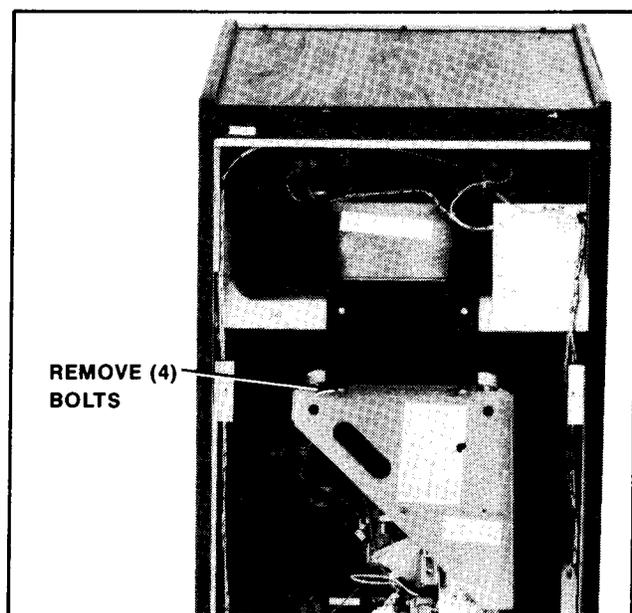

Figure 4-10 Removing Monitor — Mini
2. MINI MODEL. See Figure 4-10.
- The monitor is removed by supporting it and pulling straight back as shown in Figure 4-10. (BE CAREFUL not to hit monitor on its rear support bracket.)